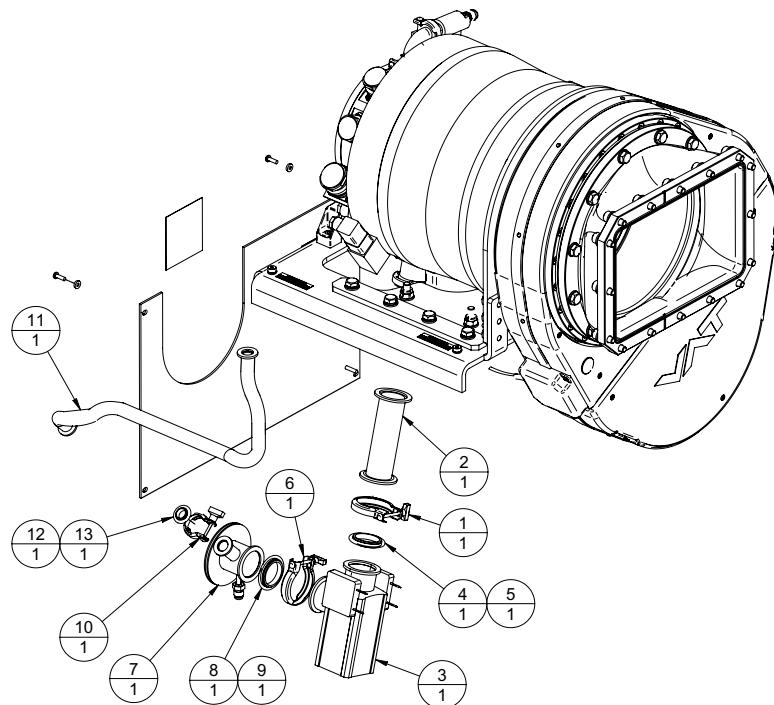

Figure 4.26 Turbo Foreline Assembly
1. Refer to Figure 4.26.
2. Remove clamp (1) securing NW40 nipple (2) to foreline isolation valve (3).
3. Remove O ring (4) and carrier (5).
5. Remove clamp (6) securing the foreline isolation valve (3) to turbo foreline adaptor (7).
6. Remove O ring (8) and carrier (9).
8. Remove clamp (10) securing turbo foreline adaptor (7) to NW16 flex pipeline (11).
9. Remove O ring (12) and carrier (13).